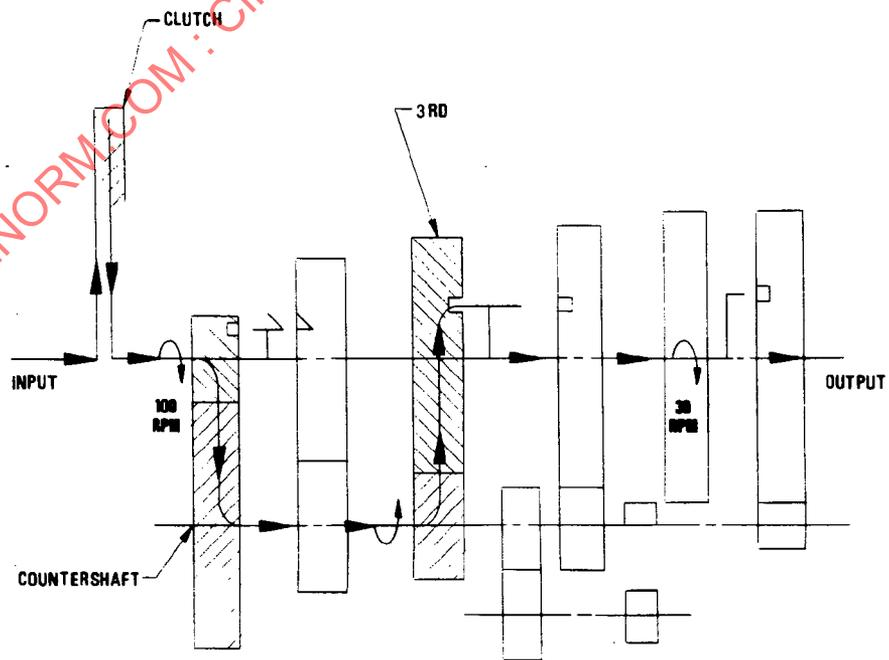

FIGURE 2 - Five Speed Transmission Diagram - 3rd Speed
3.1 Figures 2 and 4 illustrate the countershaft transmission and the planetary gear transmission in gear with the torque path denoted by straight bold arrows. Curved arrows indicate direction of shaft rotation. Active members are designated with sections crosshatched.
3.2 Countershaft transmission (Figure 2): In third, for example, the mainshaft third gear is clutched to the output shaft. This is schematically illustrated by means of the drive dog engaging the slot in the gear.